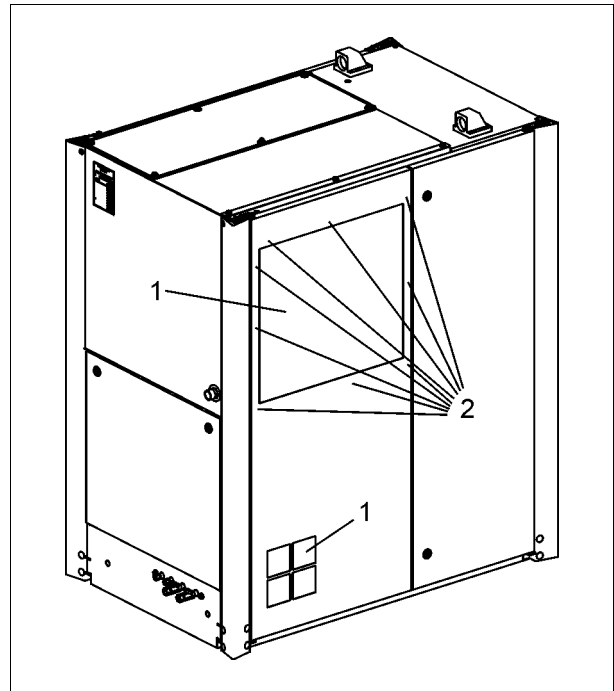

Fig. 21
- Remove the mounting screws (-2- Fig. 21).
- Take out the filter mat (-1- Fig. 21) and clean it, replace it if damaged.
- Return the filter mat to the silencer chamber (-3- Fig. 21).
b) Control-cabinet inlet filter (-4- Fig. 21)